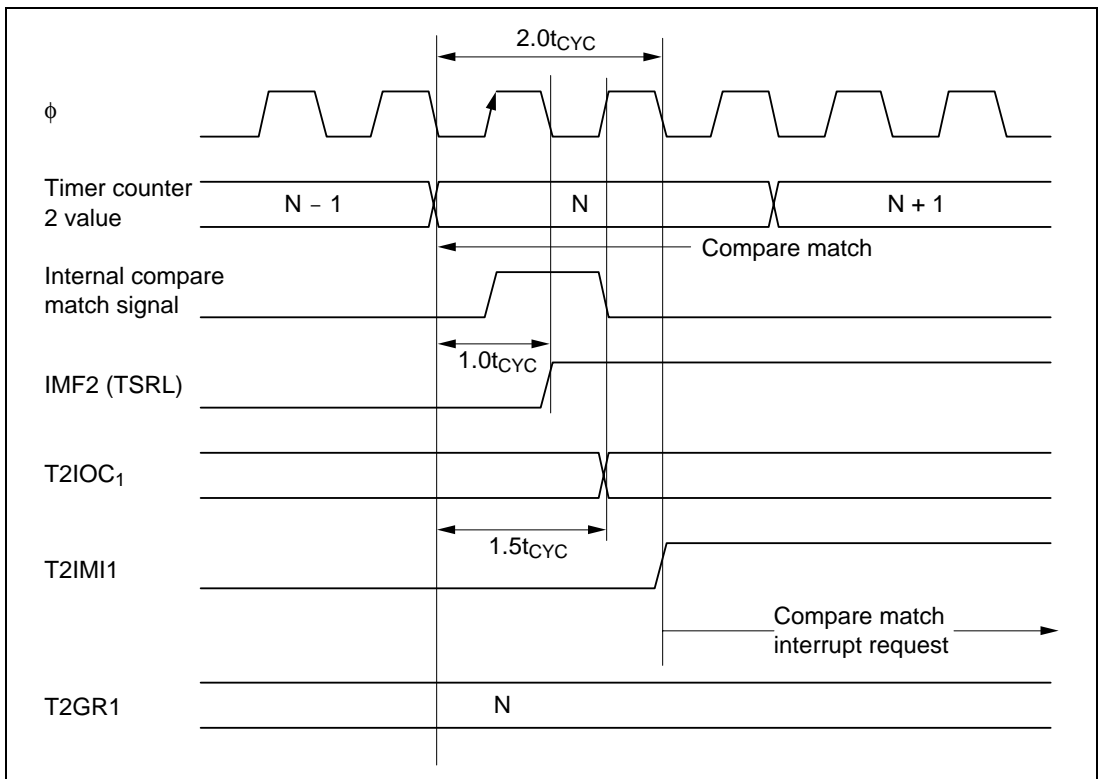

Figure 11-46 Timing from Incrementation to Compare Match Interrupt Request
(1) Output Compare Timing: Figure 11-46 shows the timing from counter incrementation to generation of a compare match interrupt request. One system clock cycle ($1.0t_{\text{CYC}}$) after timer counter 2 matches the T2GR1 value (N), the IPU sets the input capture/compare match flag (IMF). A compare match signal (T2IOC_1) is output $0.5t_{\text{CYC}}$ after IMF is set. The interrupt request (T2IMI1) is generated $0.5t_{\text{CYC}}$ after the T2IOC_1 output. The T2IMI1 interrupt request therefore comes $2.0t_{\text{CYC}}$ after the counter is incremented to N.